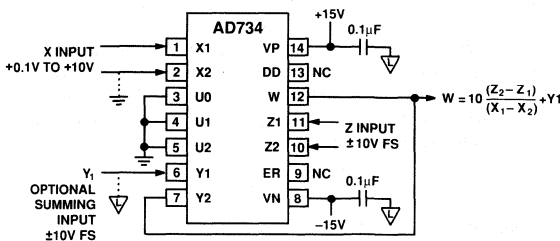

Figure 8. Standard (AD534) Divider Connection
In the recommended direct divider mode, the  $Y$  input is set to a fixed voltage (typically 10 V) and  $U$  is varied directly; it may have any value from 10 mV to 10 V. The magnitude of the ratio  $X/U$  cannot exceed 1.25; for example, the peak  $X$ -input for  $U = 1$  V is  $\pm 1.25$  V. Above this level, clipping occurs at the positive and negative extremities of the  $X$ -input. Alternatively, the AD734 can be operated using the standard (AD534) divider connections (Figure 8), when the negative feedback path is established via the  $Y_2$  input. Substituting  $W$  for  $Y_2$  in Equation (2),
Figure 8 shows the connections for the standard (AD534) divider mode. Feedback from the output, W, is now taken to the Y2 (inverting) input, which, provided that the X-input is positive, establishes a negative feedback path. Y1 should normally be connected to the ground associated with the load circuit, but may optionally be used to sum a further signal to the output. If desired, the polarity of the Y-input connections can be reversed, with W connected to Y1 and Y2 used as the optional summation input. In this case, either the polarity of the X-input connections must be reversed, or the X-input voltage must be negative.